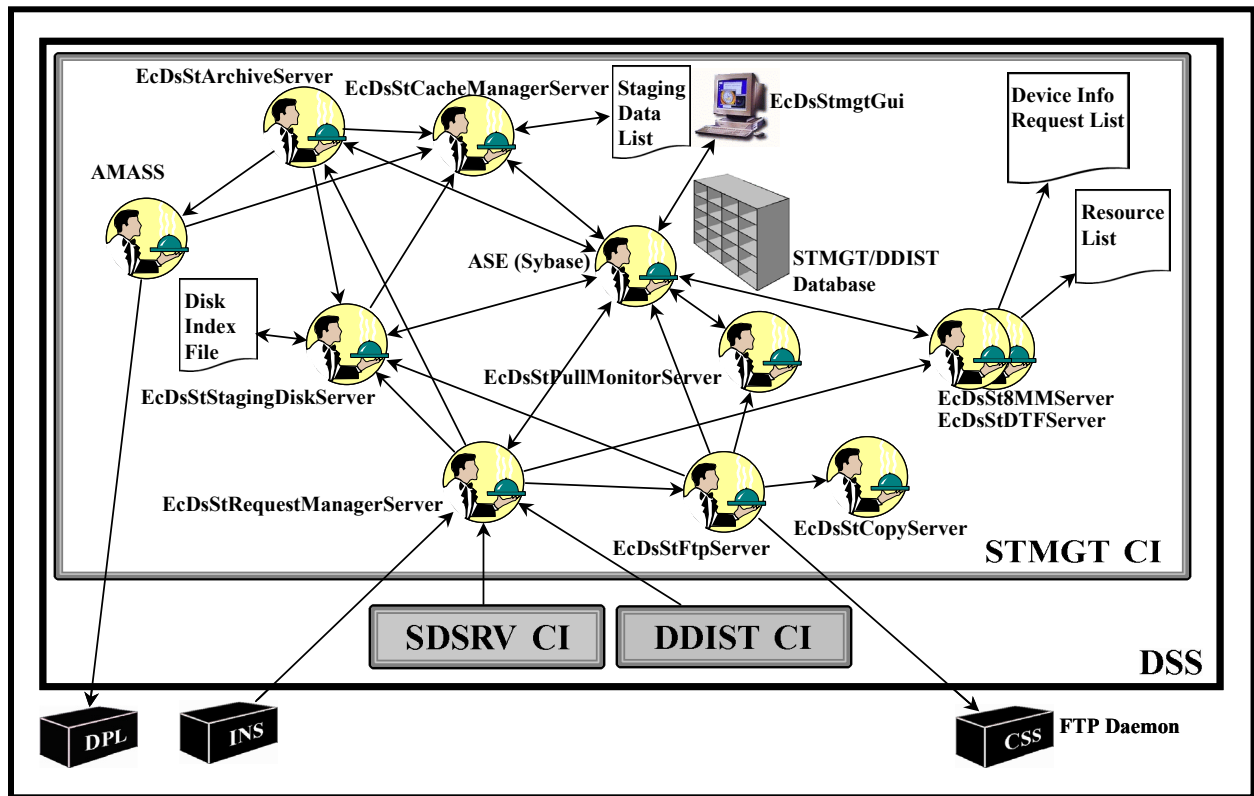

Figure 3. DSS Storage Management (STMGT) CSCI Architecture
- Storage Management (Figure 3) is the part of the DSS that stores, manages, and retrieves data files on behalf of other parts of the Science Data Processing components (including Ingest).
STMGT has the following major components (as shown in Figure 3):